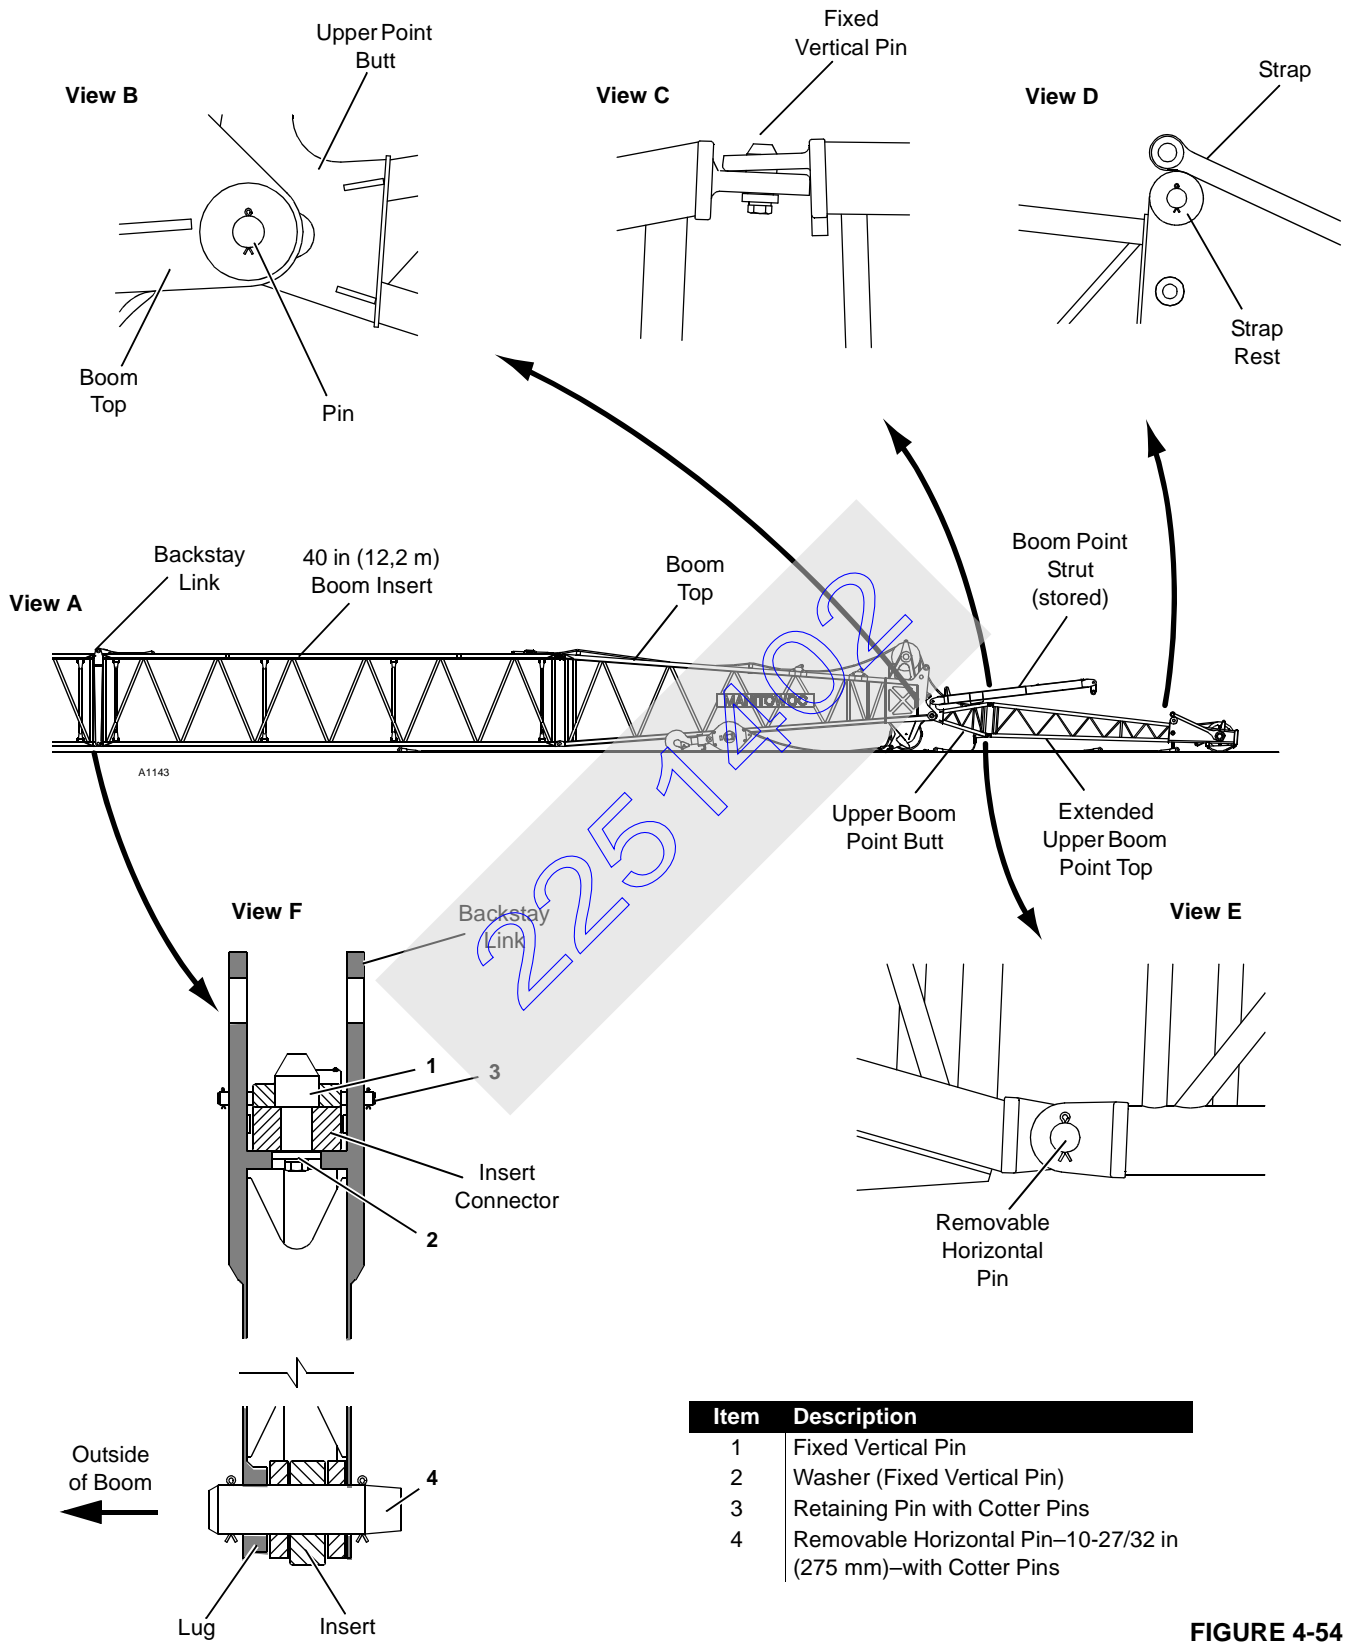

FIGURE 4-54
The lower boom point of the #44 or #44A boom with heavy lift top is equipped with nine sheaves — three clusters with three sheaves each as shown in Figure 4-54.
The extended upper boom point consists of a 5 ft (1,5 m) butt and a 20 ft (6,1 m) top, providing a basic length of 25 ft (7,6 m) as shown in Figure 4-54.
See Figure 4-54 for following procedure.
NOTE: The extended upper boom point strut is shipped in the stored position on the butt (Figure 4-54 View A).
Straps dropping from strap rests will damage controls. Handle upper point with care so straps remain seated on rests (Figure 4-54, View C).
2. Align holes in extended upper point butt with holes in boom top and install connecting pins (Figure 4-54, View B).
2. Align holes in extended upper point butt with holes in boom top and install connecting pins (Figure 4-54, View B). Install blocking under top of butt.
- The top connectors are joined by fixed vertical pins that hook into holes in the adjacent section (Figure 4-54, View C).
- The bottom connectors are joined by removable horizontal pins (Figure 4-54, View E).